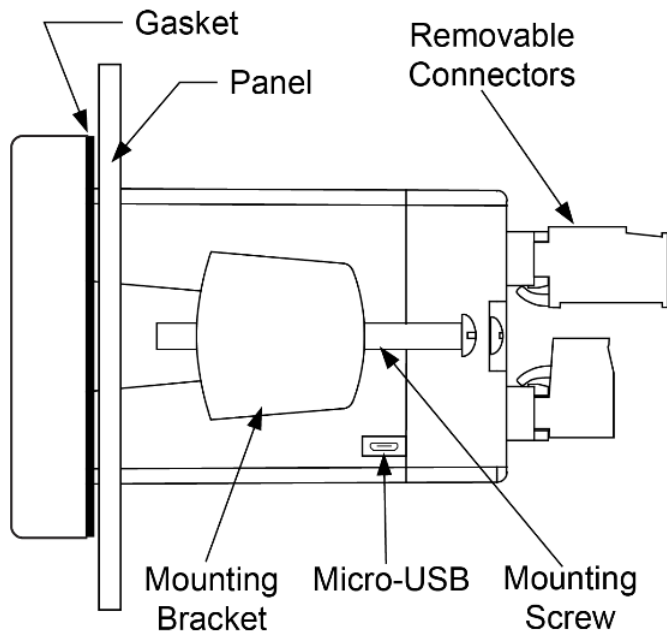

Figure 2. Panel Mounting Details
- Prepare a standard 1/8 DIN panel cutout – 3.622" x 1.772" (92 mm x 45 mm). Refer to *Figure 1* and *Figure 2* below, for more details.